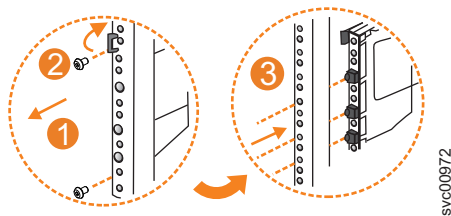

Figure 49. Remove the rail assembly from the front frame bracket
1. Remove the two screws that attach the outer rail section to the front bracket assembly, as shown in Figure 49.
2. Remove the rail section by pulling it away from the front bracket, as shown in Figure 49.